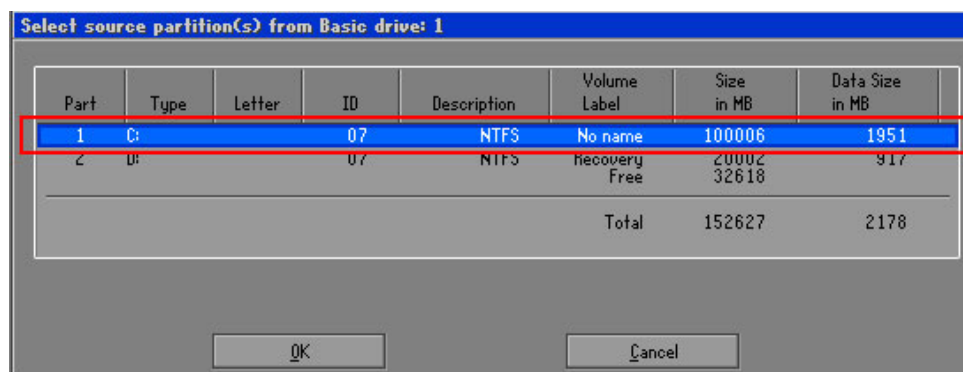

Figure A-15: Select a Source Partition from Basic Drive
Step 6: Select a source partition (Part 1) from basic drive as shown in **Figure A-15**. Then click OK.